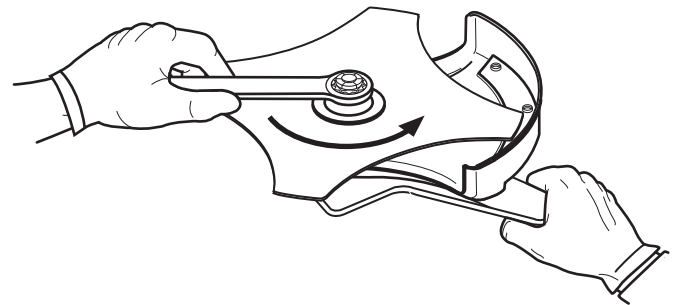

Fig. 17
7. Tighten the nut counterclockwise with a wrench (Fig. 17):